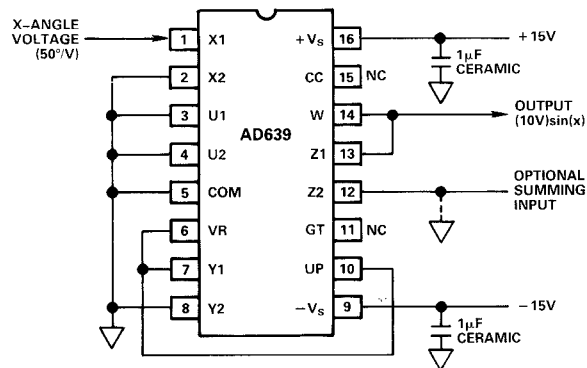

Figure 2. Connections for the Sine Mode with Amplitude Preset to 10V
The AD639 can generate either (1) a low-distortion continuous sinewave from a repetitive triwave input or (2) a high-accuracy sine function for use in computational applications. In most cases, the choice of preset or externally-controlled amplitude will make little difference to distortion or accuracy, and both methods are used in this section. In all of the *normal* modes, the Z2 input can be used either to sum a further signal to the output (or introduce an optional output offset trim). The denominator is set to unity by making  $y = 90^\circ$ , using the +1.8V output. Figure 2 shows typical connections. The 10V preset is selected, using  $V_r$  as a control input to UP, and the ideal output is  $(10V)\sin(x)$ . In practice, five basic types of error arise:
1. **X-angle scaling error:** The amount by which the angle generated for each volt of X-input differs from  $50^\circ$ . In triwave-to-sinewave (CW) applications this introduces odd-order harmonic distortion, and is indistinguishable from an incorrect triwave amplitude.